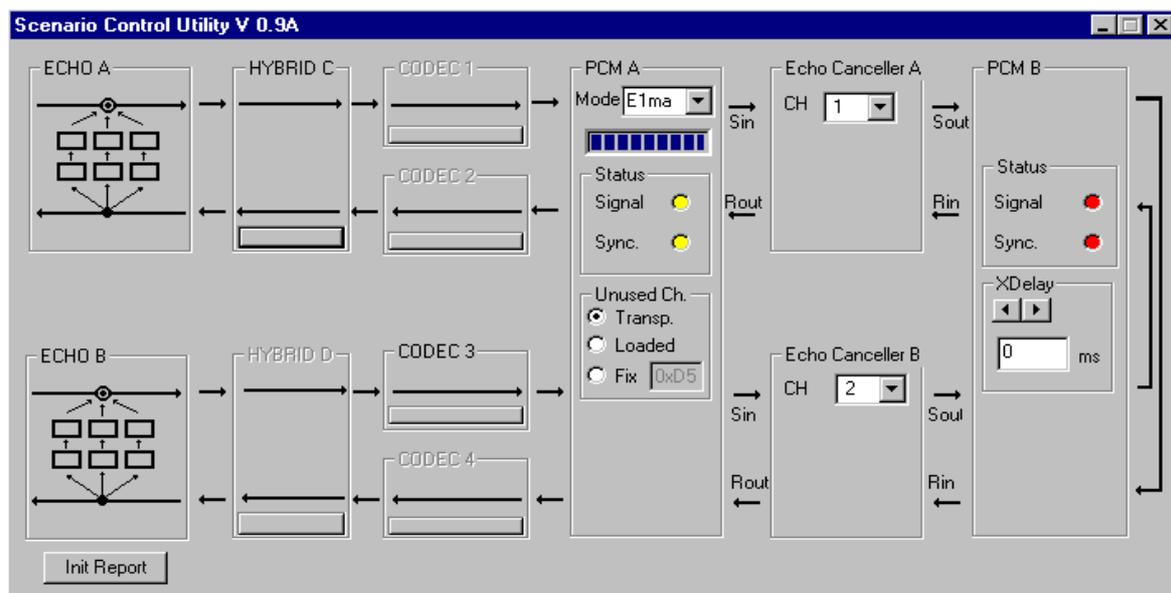

Figure 3-3. The Scenario Control Utility
- Next, the front panel 'Boot Seq.' LED will illuminate indicating that the initialization software is loading. A selection of icons will appear on the monitor screen, and the 'Scenario Control Utility' window will be displayed (Figure 3-3).
- Examine the 'PCM A' box, which is near the centre of the Scenario Control Utility window. Wait until the Progress Bar has completely lit. (The Progress Bar is near the top of the 'PCM A' box, and is shown fully lit in Figure 3-3.)